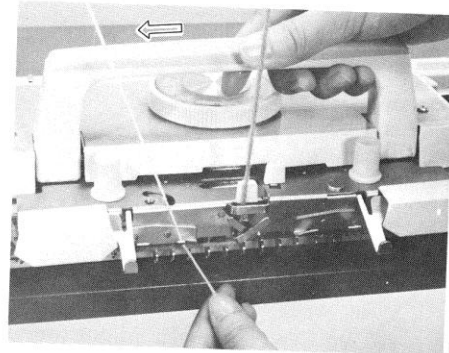

Fig.100
- c) With the carriage on right, thread main colour yarn through one of the overhead feeder wires and down to the main feeder. Contrasting colour yarn should be threaded through the other overhead feeder wire, and holding the loose end of it with your left hand, guide it to the leading (left hand) subsidiary feeder as shown in Fig.100, and at the same time move carriage to left. (see also Fig.100)